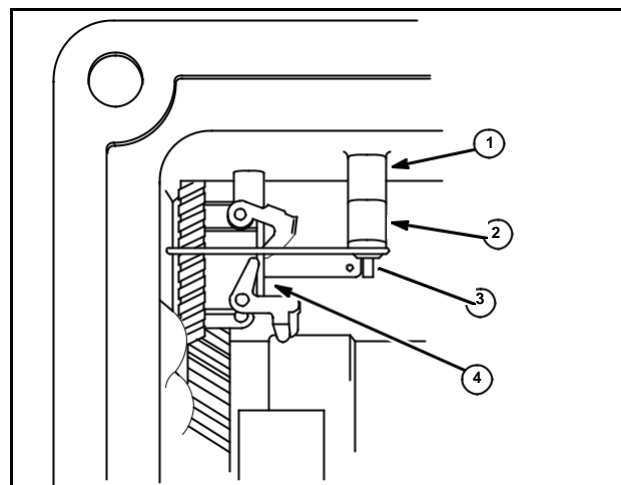

Fig. 37
Cast Iron Model Series 230000, 240000, 300000, 320000 (Fig. 37)
1. Assemble governor gear (4) and cup assembly on governor shaft in cylinder.
2. Slide governor crank (and spacer, when used) through bushing from inside cylinder, Fig. 37.